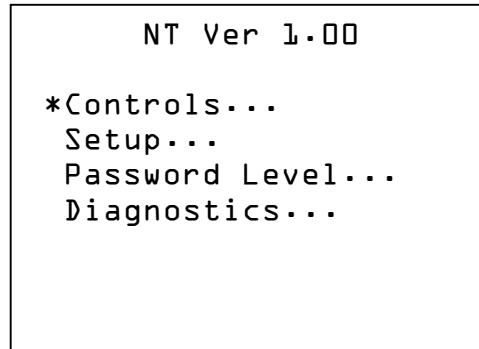

Figure 16: Main Menu
- Pressing the  key while in the Oxygen display brings up the Main Menu display (Figure 16: Main Menu).
The analyzer menu tree is large but simple to navigate. To help you quickly locate a particular screen from this manual, the steps required are located above each menu (see Figure 16).